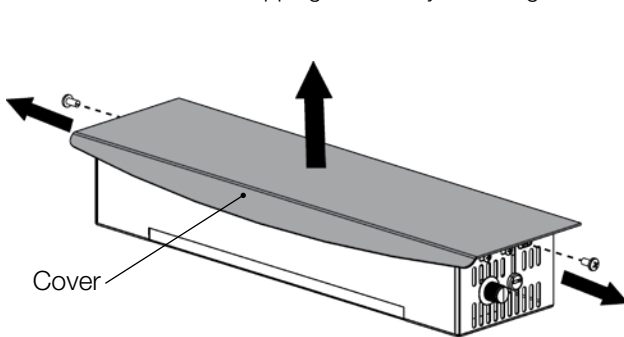

Fig. 4-11
- Remove the two screws securing the cover to the blower assembly (**Fig. 4-11**). Set the screws and cover aside.